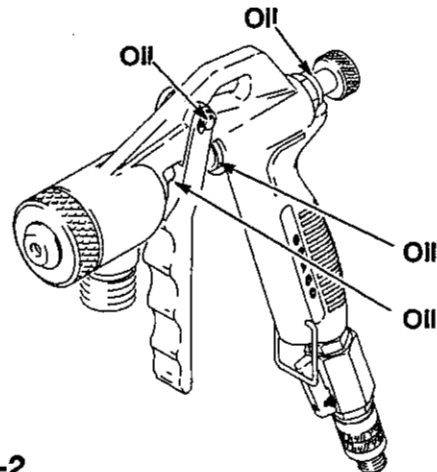

Fig 10-2
2. Trigger the gun into a pail to lower the fluid to the hopper strainer (16) level.
6. Set the air regulator (83) to 50 psi (3.5 bar) for sufficient pressure to clean out material build up in the system. Spray half the water into a pail. Trigger the gun into the hopper to circulate the remaining water for several minutes.
8. Turn off the switch (47). Open the gun air valve (423) to relieve compressor pressure.
11. Clean and dry the gun. **Oil the gun daily** with a few drops of SAE-10 light oil at the points indicated in Fig 10-2.